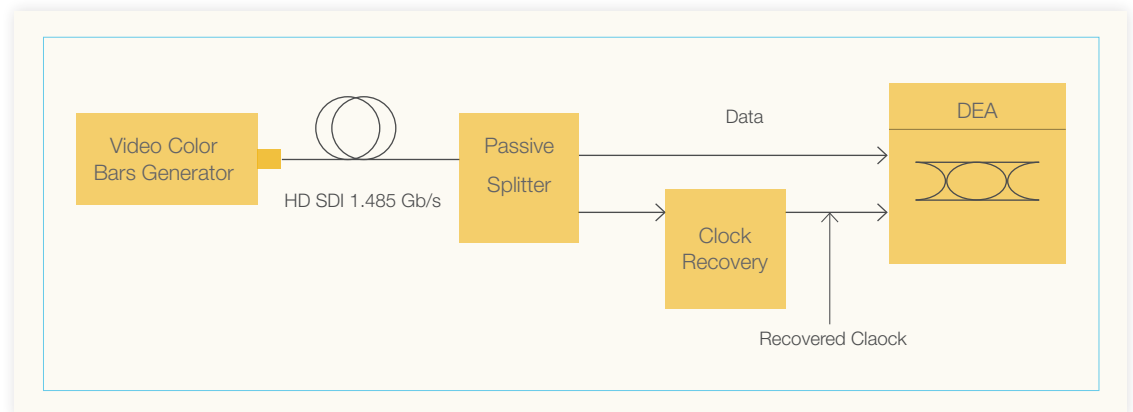

Fig 3.2.2.1. Triggering DEA with recovered clock
3.2.2: Clock Recovery Unit: A clock recovery unit is required to generate a serial clock, which can be used to trigger the error detector and scope for eye analysis. Fig 3.2.2.1 shows the configuration. The passive splitter and clock recovery unit can be included in the DEA.